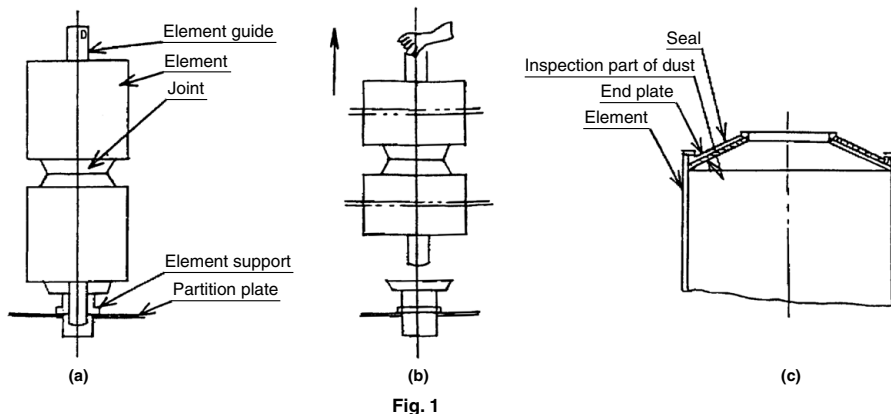

Fig. 1
After the element holder is taken out, if the element guide is taken out in such a manner as shown in Fig. 1, the element and joint can be taken out together.
- 5-1. In the case of micro mesh element (cylindrical or pleat type (spherical seal is not used)) and sintered element, be sure to remove dust completely between end plate and seal completely. (Refer to Fig. 1 (c))
* Incidentally, when the number of arrangements is many and the number of piling of elements is 3-4 stages, the one in which element and joint are set in the element guide can be set at element support. [Refer to Fig. 1 for the details: Procedure opposite to that for removal]